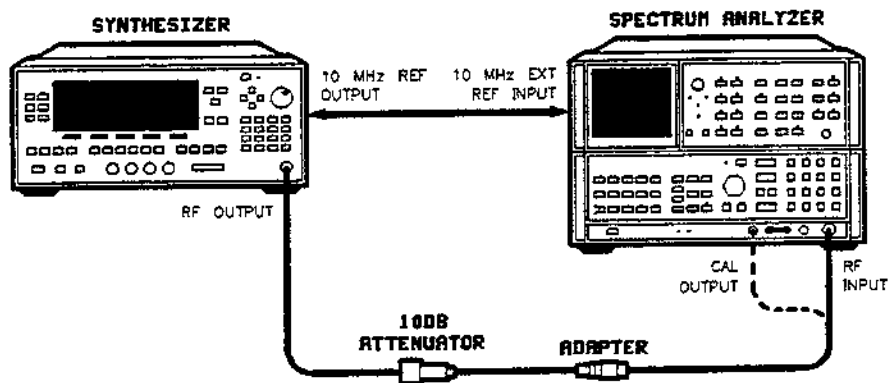
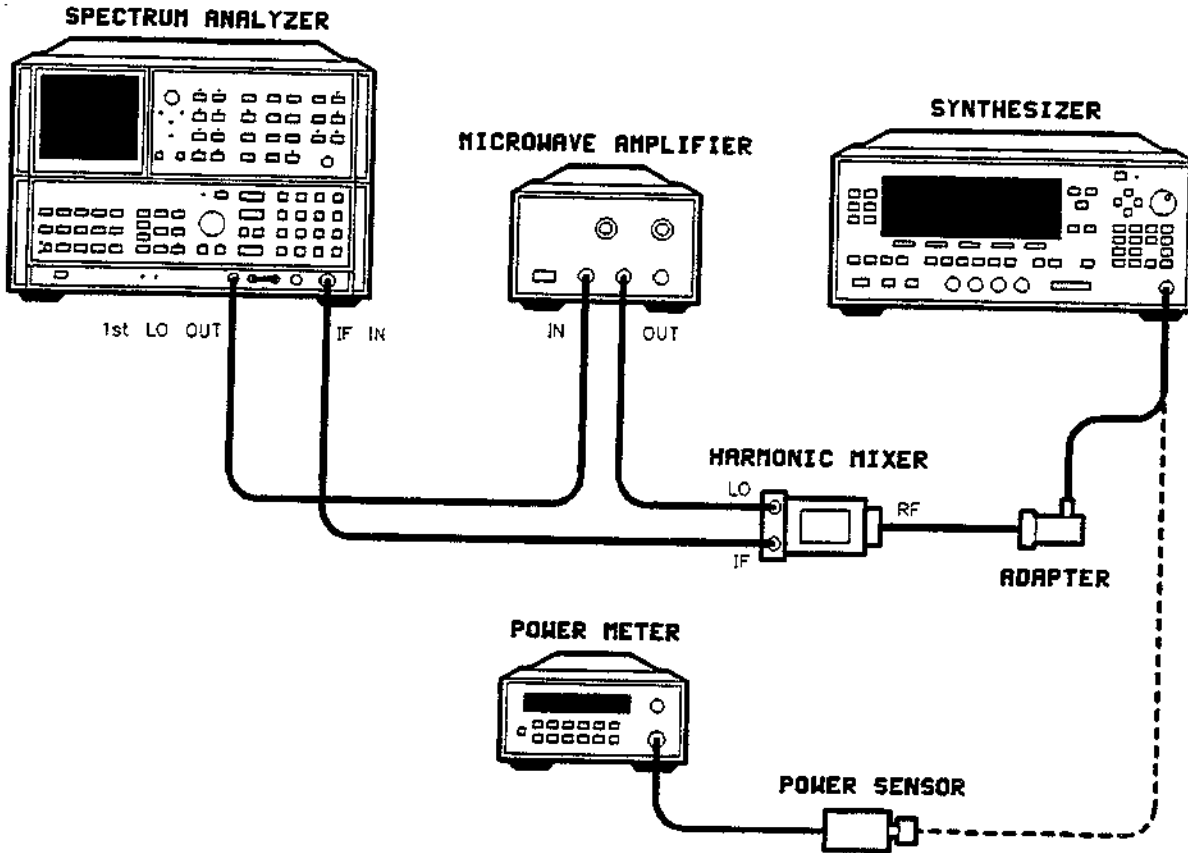

Figure 2-9. Spurious Signals (Harmonic) Test Setup < 20 GHz
Figure 2-10. Spurious Signals (Harmonics) Test Setup > 20 GHz
1. Turn on the equipment shown in Figure 2-9 and Figure 2-10. Preset the instruments and let them warm up for at least one hour.
- Connect the equipment as shown in Figure 2-9.
13. Connect the equipment as shown in Figure 2-10 using the HP 11970K Mixer (20 to 26.5 GHz).